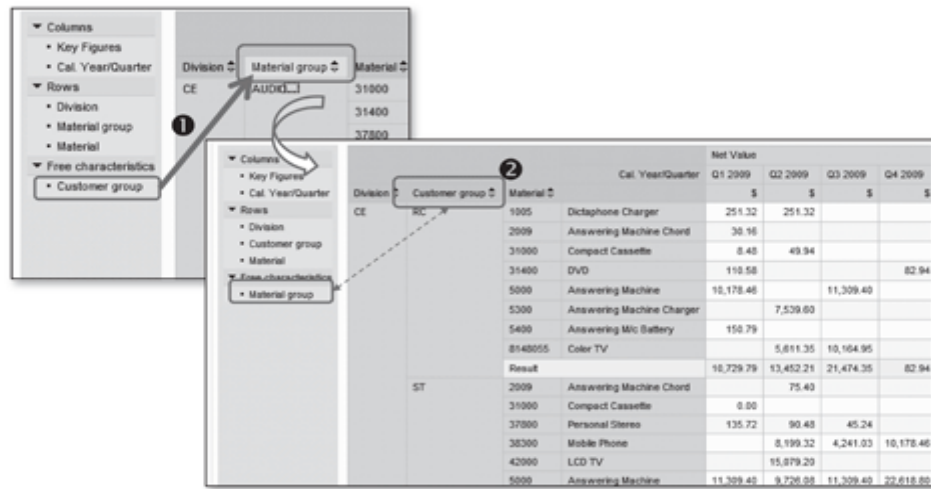

Figure 9.19 Swap Characteristics
For example, if an analyst now wants to see the data by customer group instead of material group in the query, this navigation can be performed in two steps. First, remove the material group from the layout and then drill down by customer group. You can also directly swap the display of characteristic material group with customer group as shown in ❶ of Figure 9.19.
As a result of this navigation, the query output is refreshed to display Customer Group in the result area and characteristic Material Group is added to Free Characteristics (❷ of Figure 9.19).